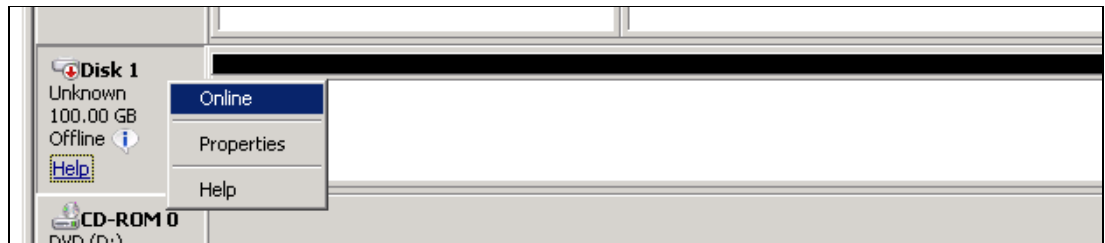

Figure 5-61 Setting volume online
6. Right-click the disk in the left pane and select **Online** if the disk is not online already, as shown in Figure 5-61.